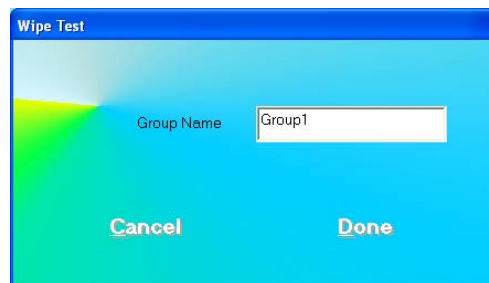

Figure 8-7
- a. Click the **Change Group Name** button or press **Alt+N**. Figure 8-7 will appear. Type in the new name up to 10 alpha-numeric characters.